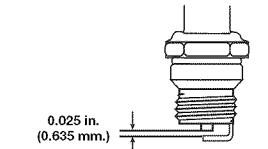

Fig. 40
1. Stop the engine and allow it to cool. Remove the six (6) screws on the back of the engine cover with a Flat-head or T-25 Torx screwdriver (Fig. 40).
4. Replace cracked, fouled or dirty spark plug. Set the air gap at 0.025 in. (0.635 mm.) using a feeler gauge (Fig. 40).